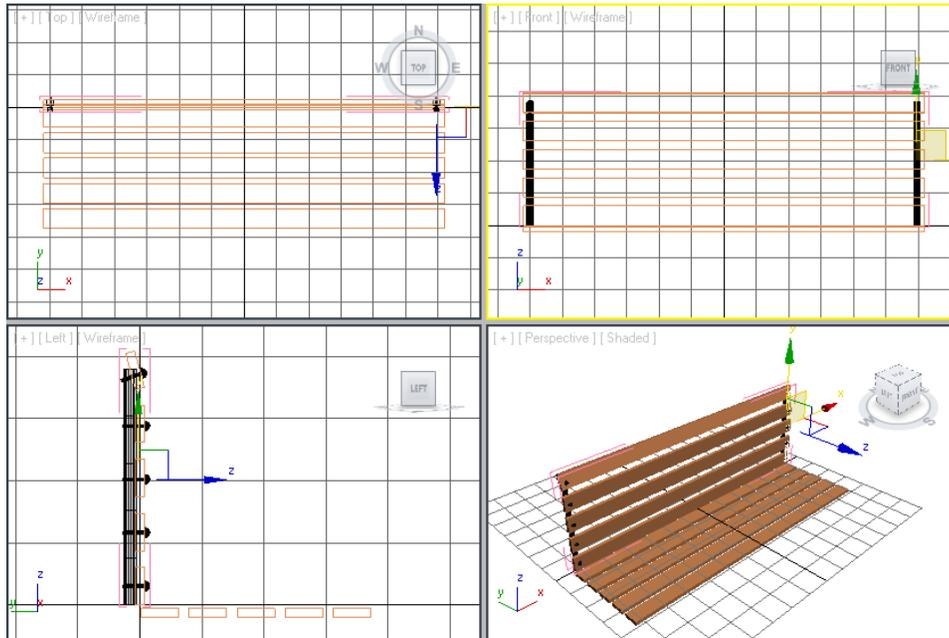

Figure 2-73 The right side rivets displayed in all viewports
2. In the **Clone Options** dialog box, make sure the **Copy** radio button is selected. In the **Name** edit box, enter **right side rivets** to modify the name of the group and choose **OK**; the *right side rivets* group is displayed, as shown in Figure 2-73.